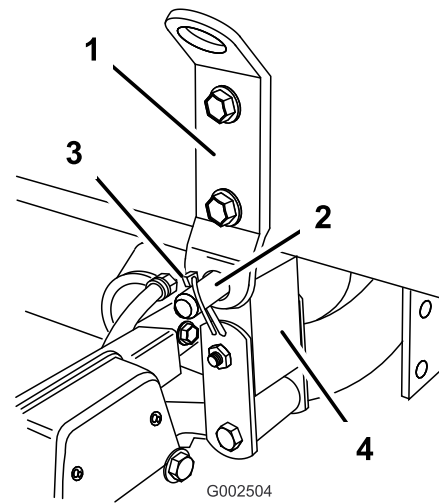

Figure 20
- Line up the pivot lug at the rear of the tank skid assembly with the opening at the end of the vehicle frame (Figure 20).
- Install a clevis pin (3/4 inch) and two lynch pins to the pivot lug to secure the tank assembly to frame (Figure 20).
- Check the alignment of the tank skid and the vehicle frame. If necessary, loosen the bolts securing the pivot lug to the tank skid frame slightly (Figure 20). Raise the tank assembly just enough above the vehicle frame to be aligned and lowered into proper position. Tighten the bolts on the pivot lug once the tank skid is aligned with the vehicle frame.